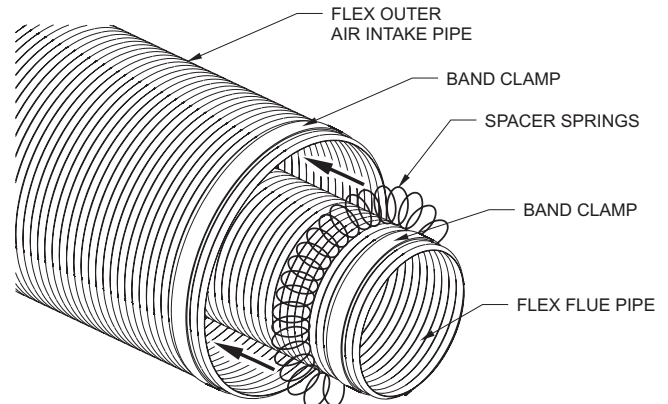

Figure 2
6. Locate the inner flex vent which has a pre-assembled flue collar connector and attach the spacer springs. The springs should be spaced evenly apart starting at 12 inches from the fireplace flue collar. **See Figure 2.**